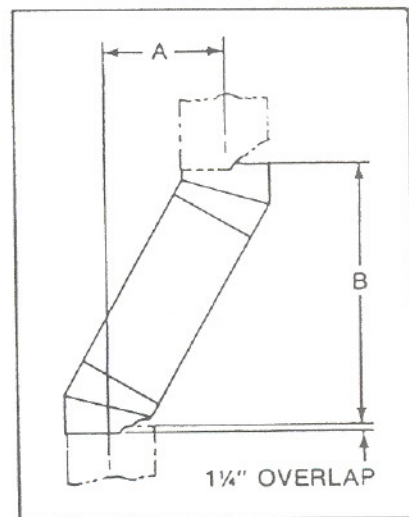

Figure 9
To clear any overhead obstructions, the chimney may be offset using a 30° Offset/Return, Catalog Number SL330. Figure 9 and Table 1 enable selection of the appropriate chimney components when using Offsets and Returns.
1. Determine amount of offset required to extend the chimney through a wall or around an obstacle. See Figure 9, dimension "A".